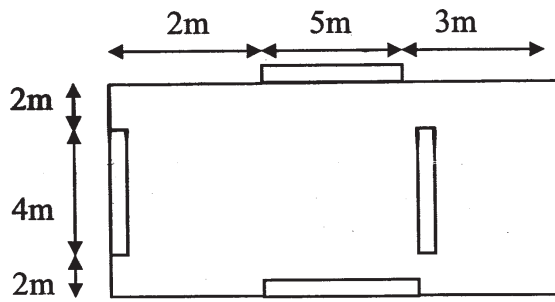

Figure 5.1
- Q5)** A single storey building has shear walls as shown in figure 5.1. The shear walls are of M25 grade concrete and 200 mm thick. The storey height is 4m. Design shear force on building is 500 kN in either direction. Compute design lateral force in Y - direction. [16]